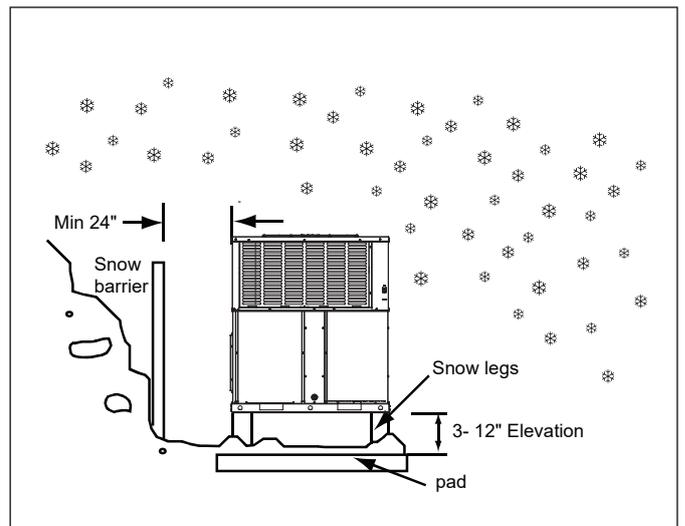

Figure 11
- ▶ Units should be elevated 3-12 inches above the pad or rooftop, depending on local weather. This additional height will allow drainage of snow and will permit condensate water to drain when the unit is in defrost mode. Ensure that drain holes in unit base pan are unobstructed, preventing drainage of defrost water (See Fig.11).